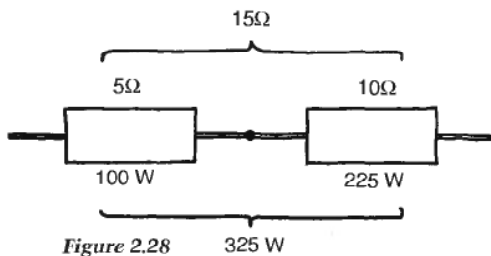

Figure 2.28
1. A 10Ω resistor rated at 225W is connected in series with a 5Ω resistor at 100W (Figure 2.28). These resistors are ordered from *Ohmite* and have the catalog numbers L225J10R and L100J5R0. Total resistance is 15Ω and total power is 325W. Provided the power rating of the